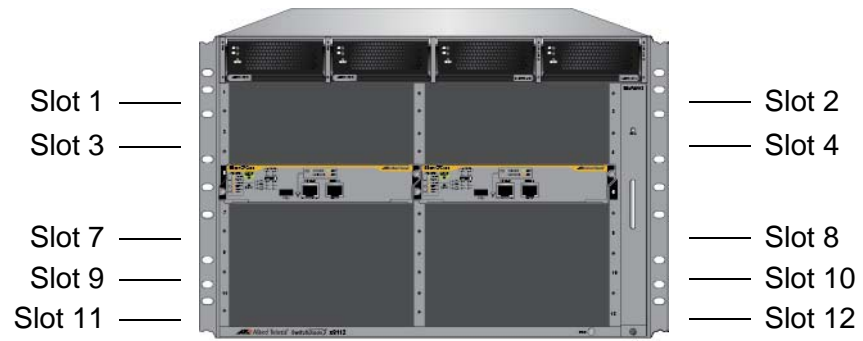

Figure 66. Slots 1 to 4 and 7 to 12 for the Ethernet Line Cards
1. Choose a slot in the chassis for the Ethernet line card. The Ethernet line cards may be installed in slots 1 to 4 and 7 to 12. The slots are shown in Figure 66.